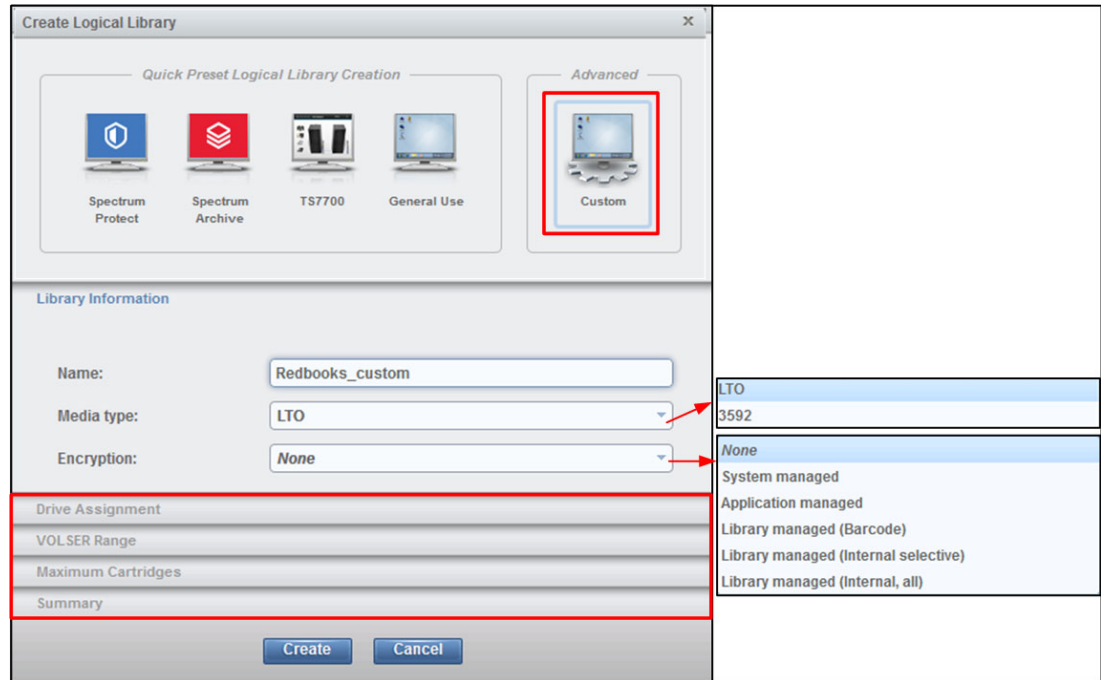

Figure 4-120 Custom logical library
1. Select the number of drives and slots to use for the logical library that you are configuring. Figure 4-120 shows the initial menu after you select **Custom**. Additionally, you can select the drive assignments, VOLSER range, maximum cartridges, and summary.